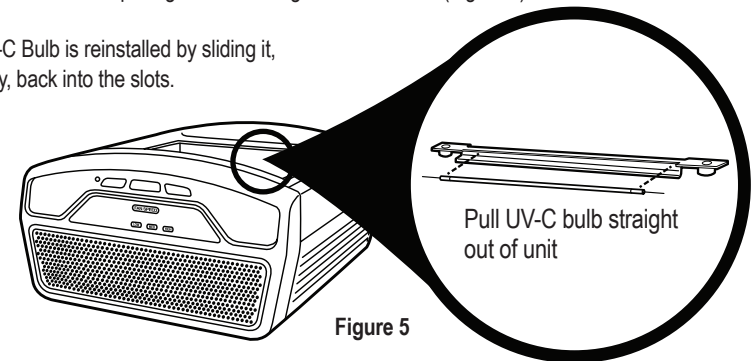

Figure 5
3. After removing the Combination Filter, use a Philips head screwdriver to remove two (2) screws and detach the UV-C Shield.
4. The UV-C Bulb is removed by carefully grasping the bulb with a clean cloth or tissue and pulling the bulb straight out of the unit (Figure 5).